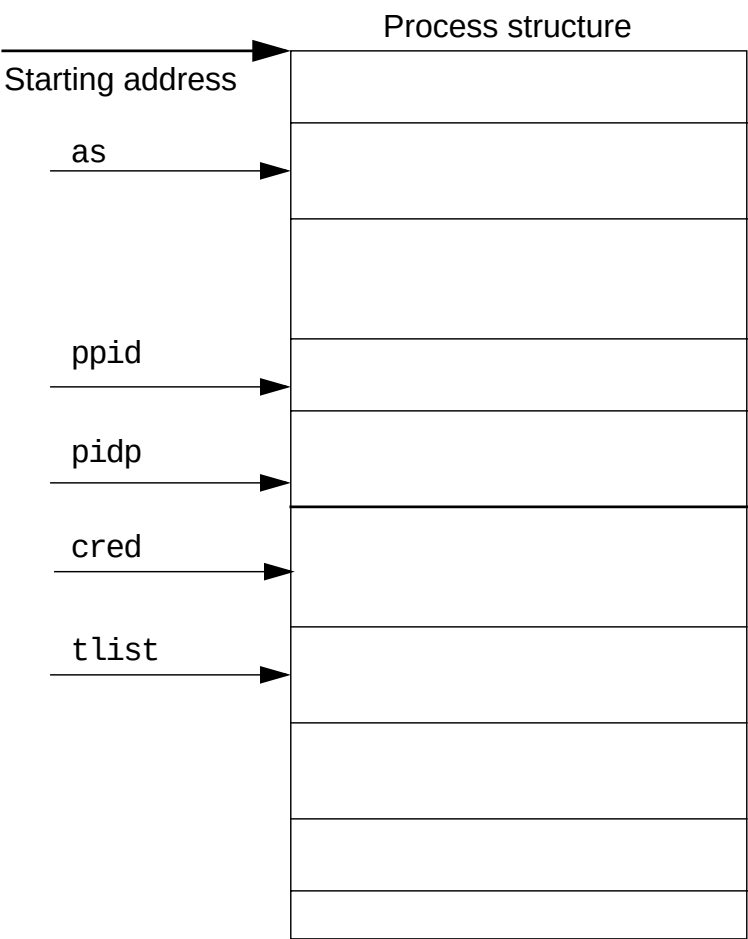

Figure C-2 Process Structure
4. View the *proc* structure and record the fields in Figure C-2.